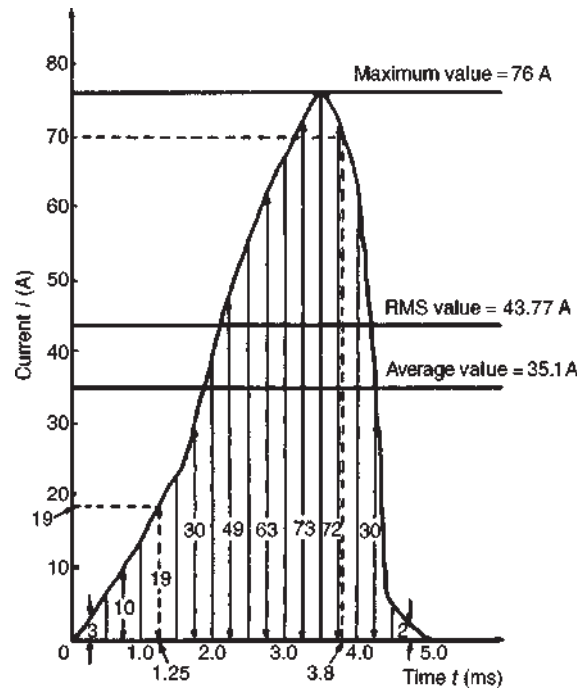

Figure 14.6
The half-cycle of alternating current is shown plotted in Fig. 14.6
- (b) Instantaneous value of current after 1.25 ms is **19 A**, from Fig. 14.6. Instantaneous value of current after 3.8 ms is **70 A**, from Fig. 14.6
$$\begin{aligned} \text{area under curve} &= (0.5 \times 10^{-3})[3 + 10 + 19 + 30 \\ &\quad + 49 + 63 + 73 \\ &\quad + 72 + 30 + 2] \\ &\quad \text{(see Fig. 14.6)} \end{aligned}$$